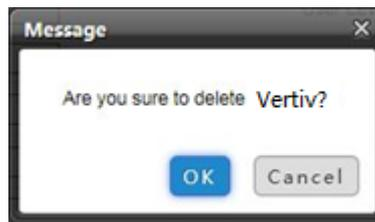

Figure 6-71 Confirming dialog box
2. Click the **Delete** button to pop up the confirming dialog box, as shown in Figure 6-71.